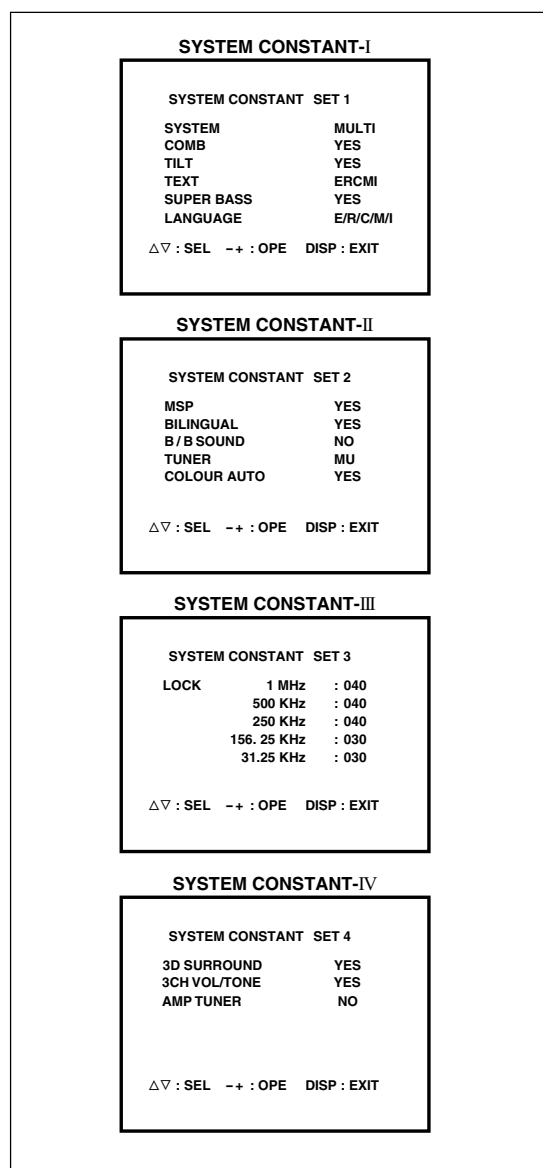

Fig. 2
- 1. While pushing down the 2 claws marked (E) as shown in Fig. 2 and pull out the Control base in the direction of arrow marked (F) as shown in Fig. 2, the control base can be removed.
- 2) In the SERVICE MENU, press the DISPLAY key and PICTURE MODE key simultaneously. Then, the SYSTEM CONSTANT SET screen will be displayed.(See Fig.2.)